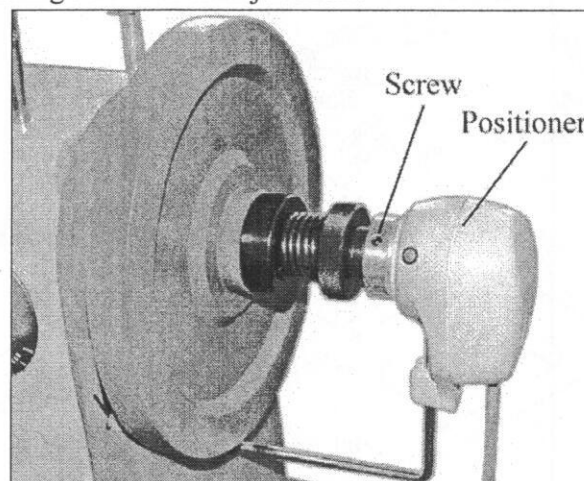

Fig.17
4.6 Adjustment setting of stopping position (Fig.17)